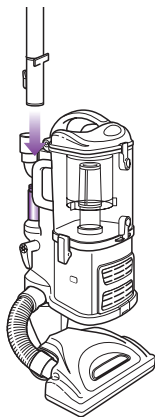

Fig. 9
- 3 Attach the end of the extension wand to the tube on the back of the *Lift-Away*® canister until it clicks into place. (Fig. 9)